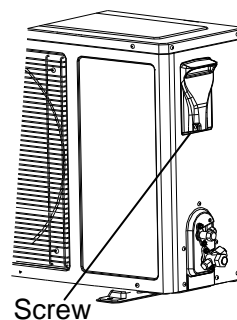

Fig.13
- Unscrew and dismantle the electronic device lid(Fig.13).